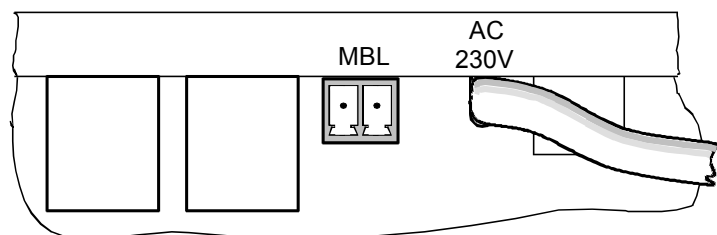

Fig. 6
- Wire the line signal (MOBALine) to plug "MBL" (see Fig. 6)